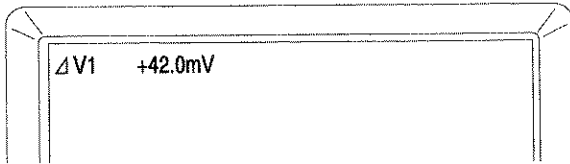

Figure 9: Typical  $\Delta V$  Readout
5. Read the measurement value on the screen. Typical measurement readouts are shown in Figures 9 and 10. The measurement values are automatically controlled by the **VOLTS/DIV** and **SEC/DIV** control settings.